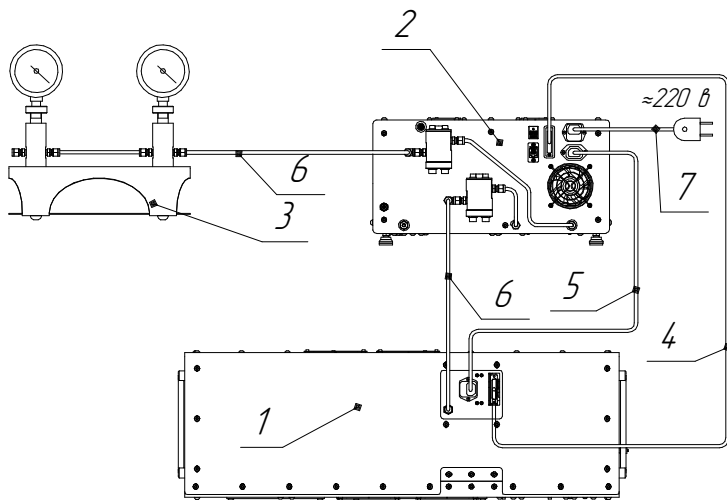

Fig. 5. Layout of calibrator connections
The connection layout is shown in Figure 5.
6.5 Connect the units together with electrical cables and hydraulic pipes as shown on the connection layout (Fig. 5).